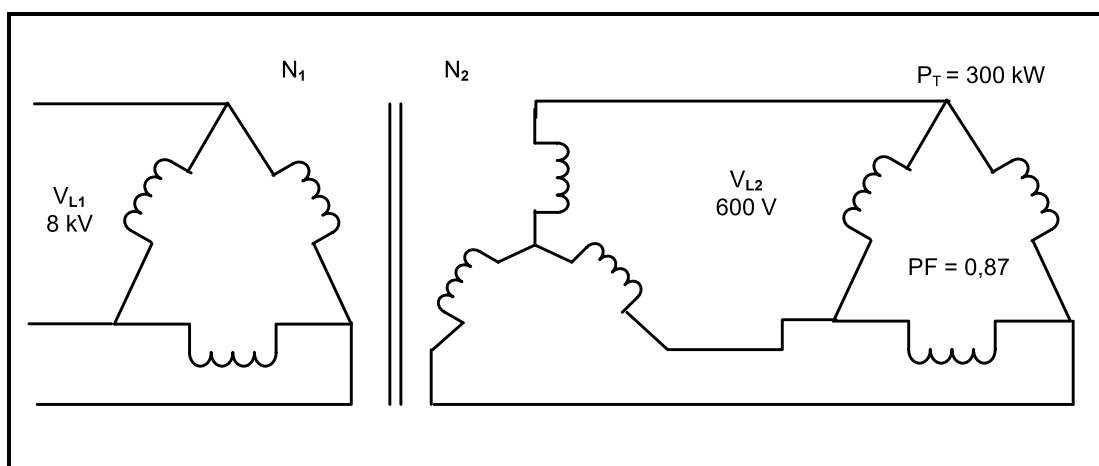

FIGURE 5.3: THREE-PHASE DELTA-STAR CONNECTED TRANSFORMER
- 5.3 FIGURE 5.3 below shows a 300 kW delta-connected load with a power factor of 0,87 that is connected to a delta-star transformer. The primary and secondary line voltages of the transformer are 8 kV and 600 V respectively. Assume that the transformer is 100% efficient. Answer the questions that follow.